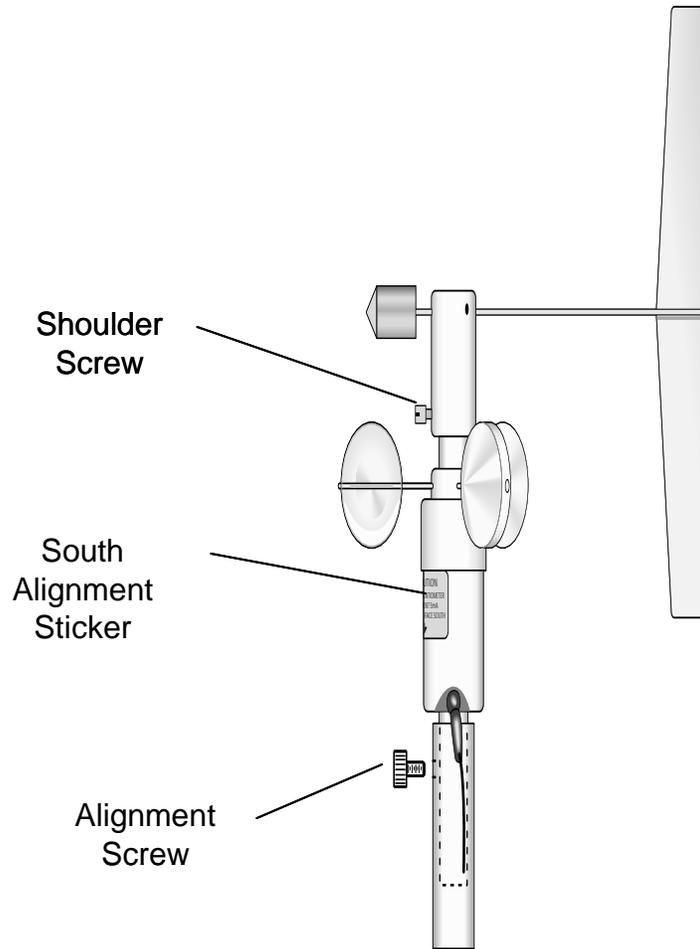

Figure 34
1. Remove the alignment screw at the base of the Wind Sensor (Figure 34). Insert the Wind Sensor into the Mounting Shaft. Align the hole in the shaft with that in the base and replace the screw. Do not over tighten the alignment screw. Do not remove the shoulder screw at this time.
3. See Figure 34 for the alignment sticker on the wind sensor. Align the arrow on this sticker with True South. The counterweight will also be pointing due south. Make sure the sensor cable is not being pinched by